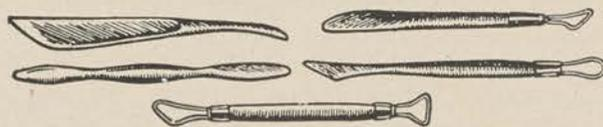

Figure 125.
a. You need only a few modeling tools to form clay figures. Orangewood sticks or improvised tools whittled from wood will do. The most useful shapes are shown in the illustration (fig. 125). The tool